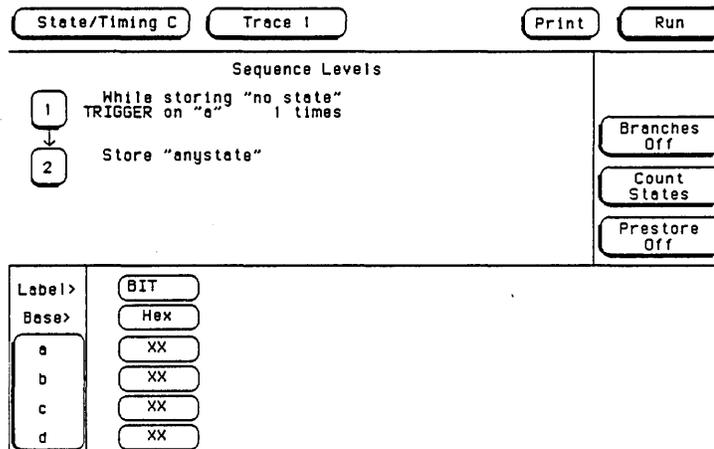

Figure 3-6. Trace Screen
5. Set the Trace screen without sequencing levels and set **Count** to **States** as shown in figure 3-6. Refer to a and b if unfamiliar with the menus.